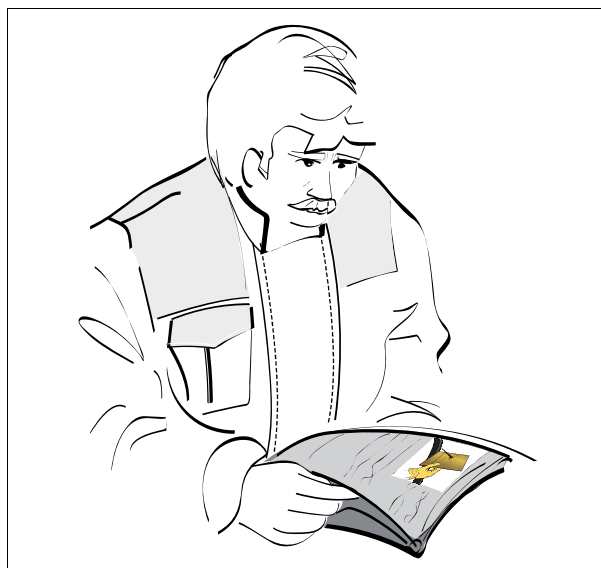

Fig. 1.
- to have read and understood this entire book — always consult the dealer as soon as there is any doubt or lack of understanding fig. 1